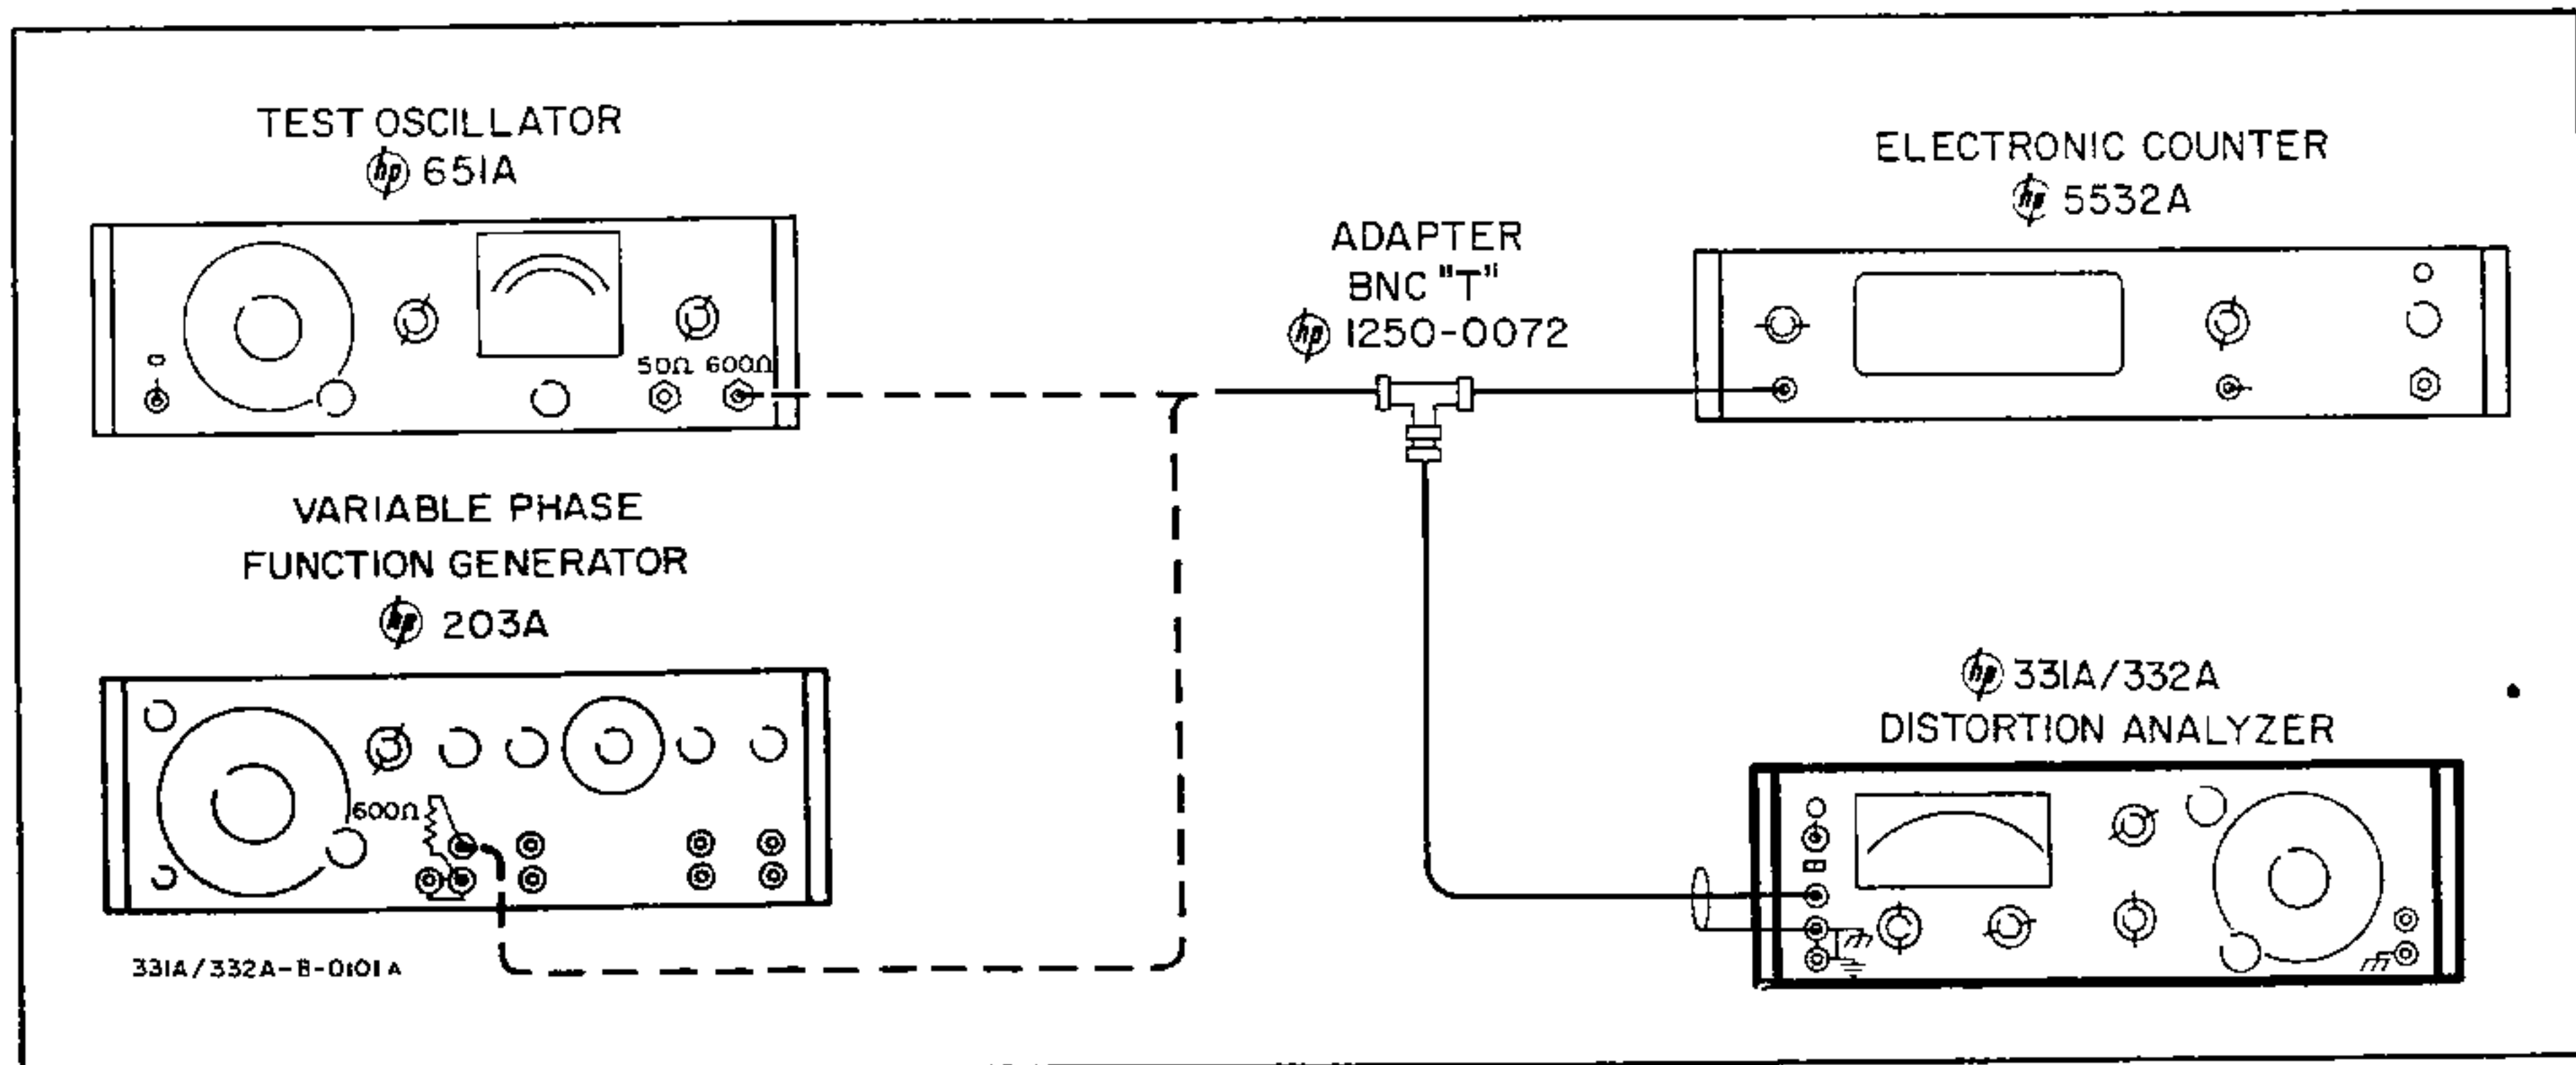

Figure 5-3. Test Setup for Frequency Calibration Accuracy Check
- a. Connect 331A/332A as shown in Figure 5-3.